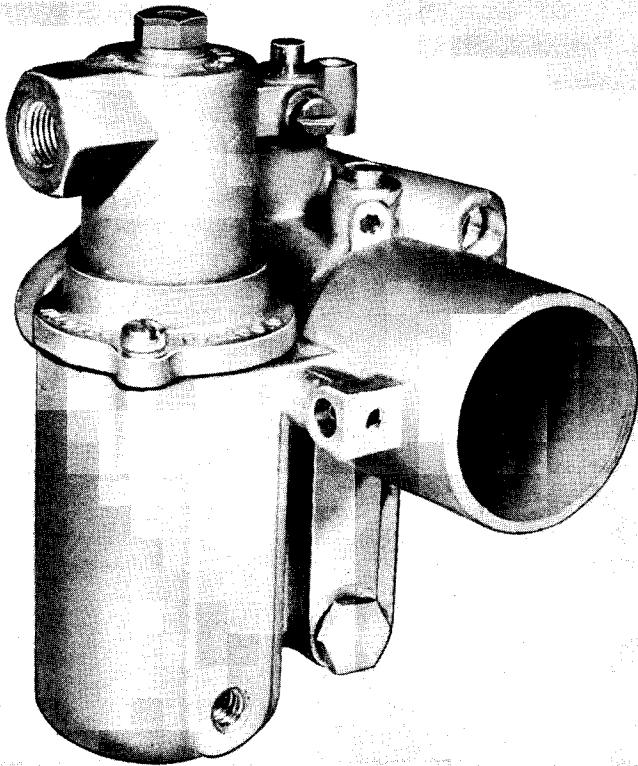

Figure 1. Model KA Carburetor
2. Detach filter housing, gasket and filter element and gasket. (Figure 1)